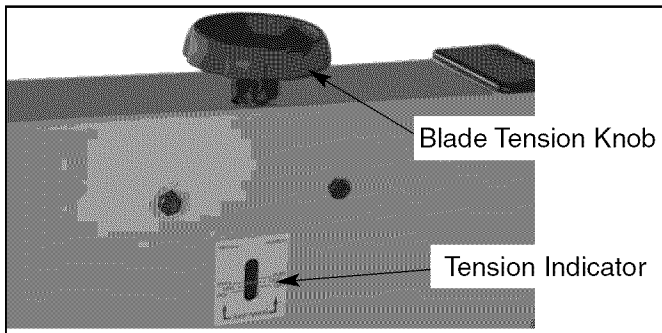

Figure 20 - Adjust Blade Tension
- To loosen the tension of the blade, turn the blade tension knob counter clockwise and the tension indicator will be lower. To tighten the tension of the blade, turn the tension knob clockwise, and the tension indicator will rise (see Figure 20, page 9).